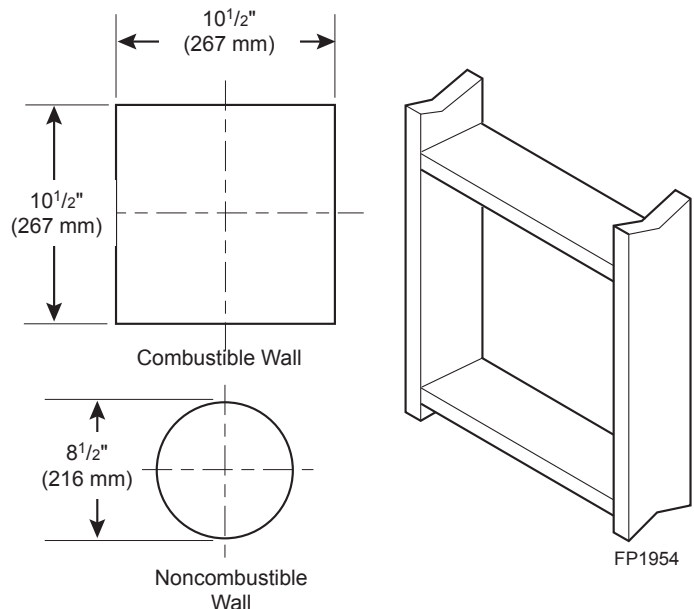

Figure 16 - Exterior Wall Framing Dimensions
Combustible Exterior Walls: Cut a 10¹/₂" x 10¹/₂" square hole through the exterior wall frame. *Figure 16*
- The center of the hole should align with the center line of the horizontal rigid vent pipe end. Allow 1/4" minimum rise per foot. *Figure 16*